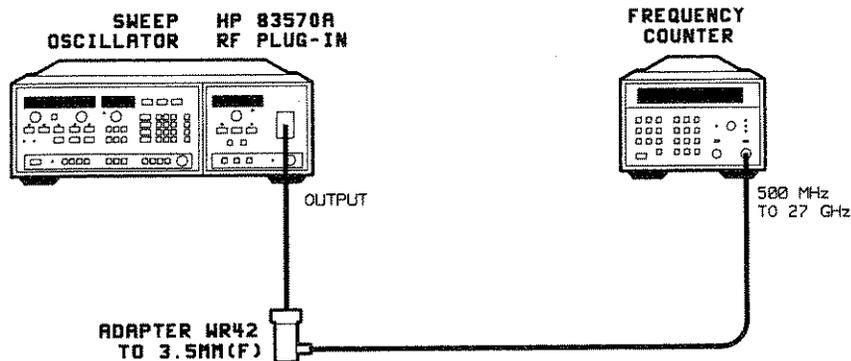

Figure 5-9. Frequency Accuracy Adjustment Test Setup
1. Connect equipment as shown in Figure 5-9. Allow the equipment to warm-up for **ONE** hour before performing this adjustment.